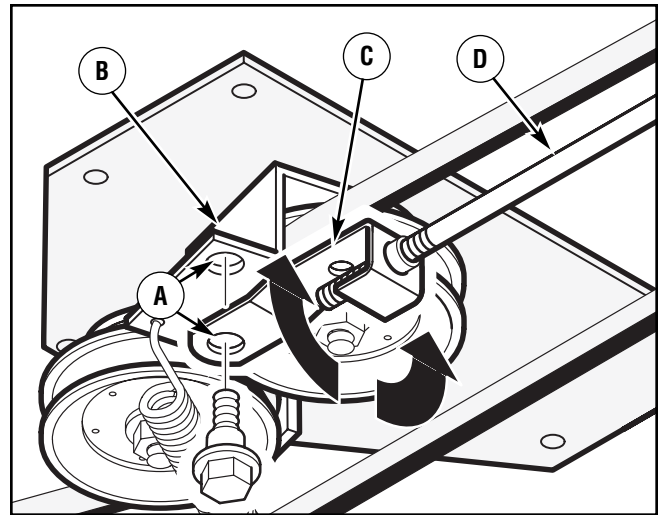

Figure 27: Aligning clutch link
2. Disconnect the **clutch link** from the **idler arm** (Figure 27).
4. Rotate the **clutch link** until the mounting hole in the **clutch link** is aligned with the hole in the **idler arm** as shown in Figure 27.
5. Connect the **clutch link** to the **idler arm** (Figure 27).